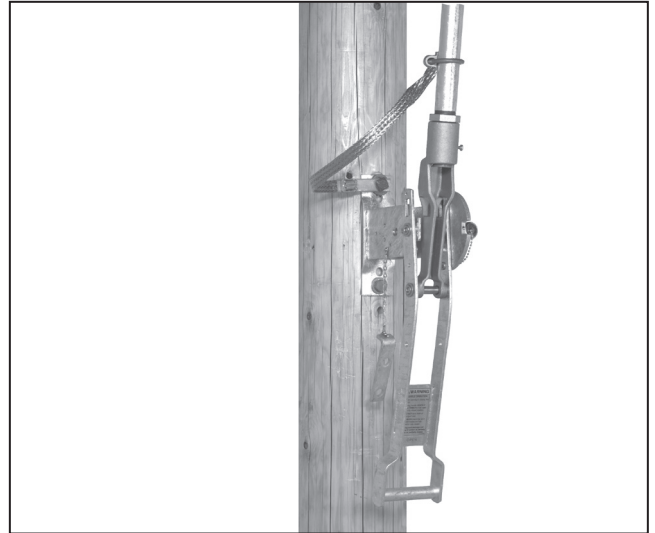

Figure 39. Withdrawing the locking bar and disengaging the key interlock bolt.
STEP 26. Remove the padlock from the locking bar on the operating handle assembly. Withdraw the locking bar. See Figure 39.